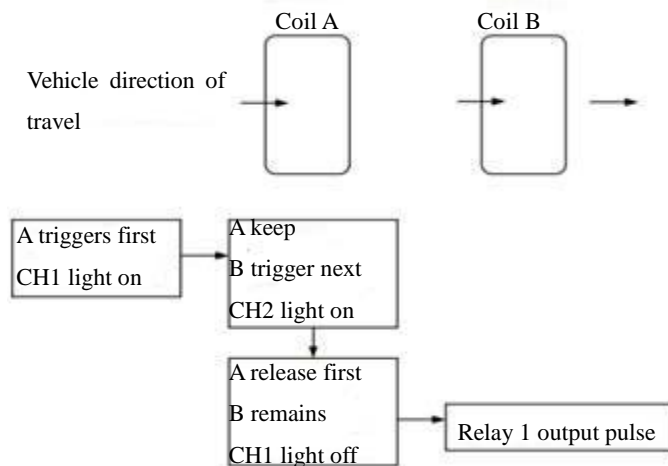

Figure 4
The triggering conditions and process (using A→B logic as an example) are as follows: (see Figure 4)
The front panel (see Figure 4) configures one power indication (ON), two channel status displays (CH1, CH2), an 8-bit DIP toggle switch, and a reset button (RESET). Rear panel configuration single 11-pin plug (86CP11).